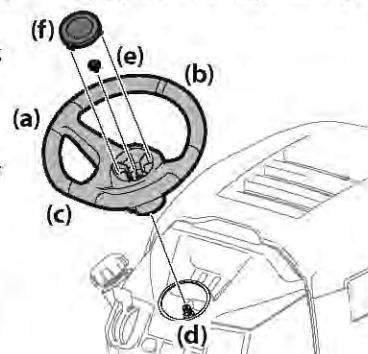

Figure 14
- With the wheels of the tractor pointing straight forward, align the steering wheel (a) by using the center-line (b) on the front of the steering wheel (a) pointing straight ahead and the flat section (c) of the steering wheel (a) facing toward the seat, place the steering wheel (a) over the steering shaft (d). See Figure 14.